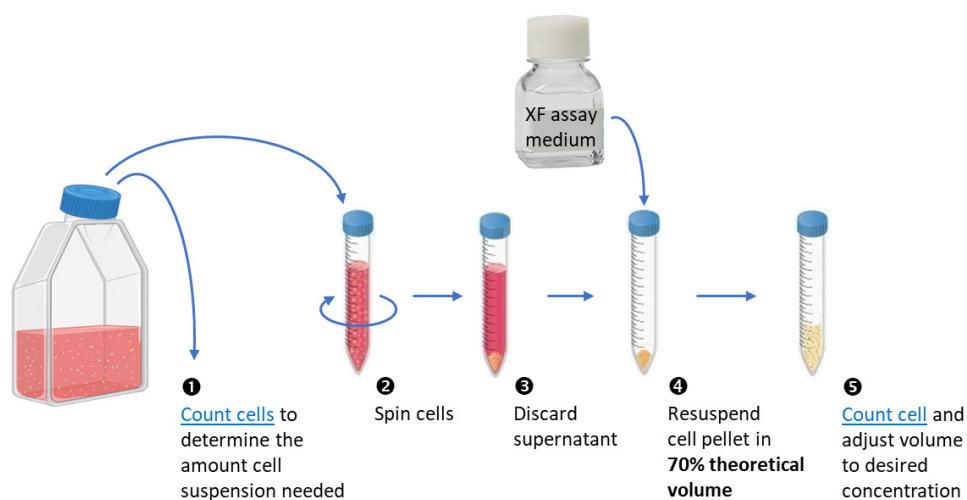

Figure 8. Suggested cell-preparation steps for cell seeding with T cells.
- Count cells twice: before centrifugation, and after resuspending cells in assay medium. The second counting in step 5 in **Figure 8** is especially important to ensure accurate seeding density, and should not be omitted because some cells can be lost when discarding spent medium.